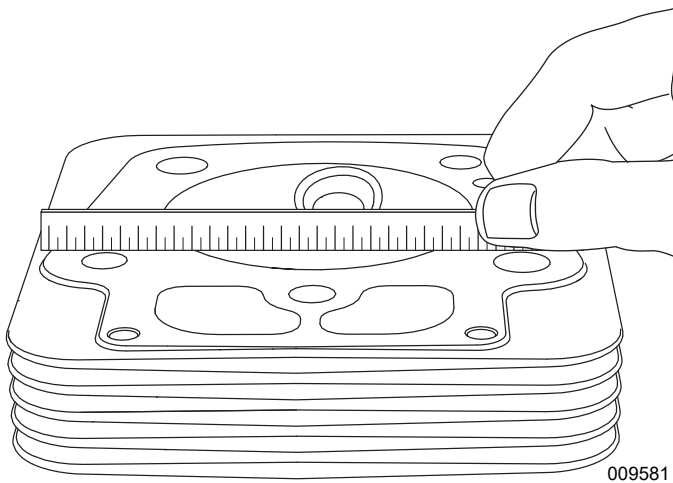

Figure 9-1. Check Cylinder Head Distortion
1. See Figure 9-1. Inspect condition of cylinder head. Verify all gasket material is removed from surfaces before inspecting.